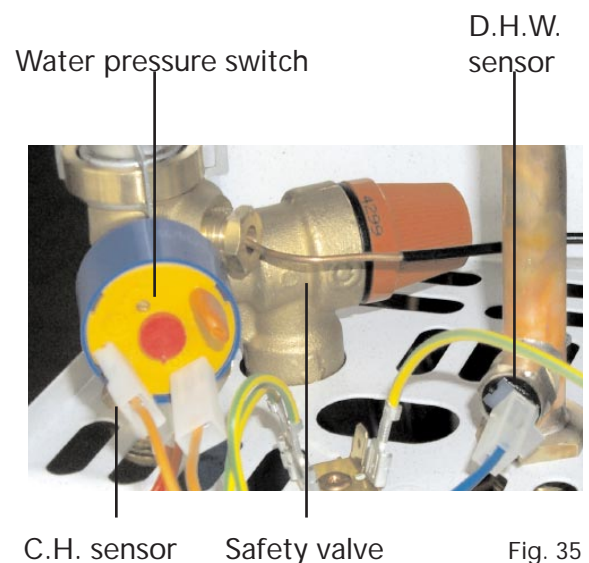

Fig. 35
## 7.07.1 D.H.W. temperature sensor or Central Heating Temperature Sensor (fig. 35)
- Identify the sensor from figure 35
## 7.07.2 Water Pressure Switch (fig. 35)
- Identify the switch from figure 35
## 7.07.3 Safety Valve (fig. 35)
- Identify valve from fig. 35